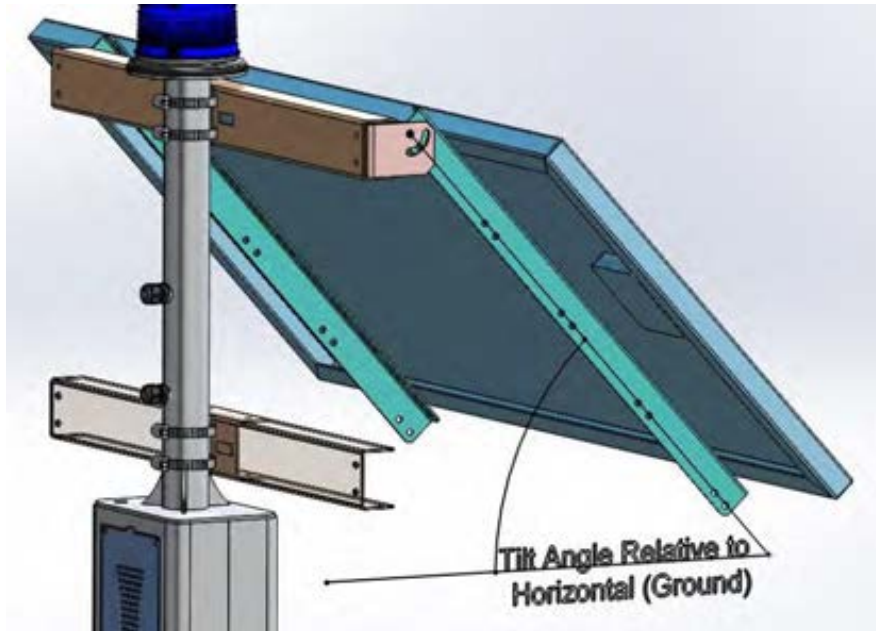

Figure 9. Panel tilt angle reference
8. Refer to **Appendix A** for correct tilt angle according to geographic location. To adjust the tilt angle loosen the bolts holding the mounting rails to the clips and adjust the tilt of the panel as shown in **Figure 9**. Retighten the bolts to **12 ft-lbs**.